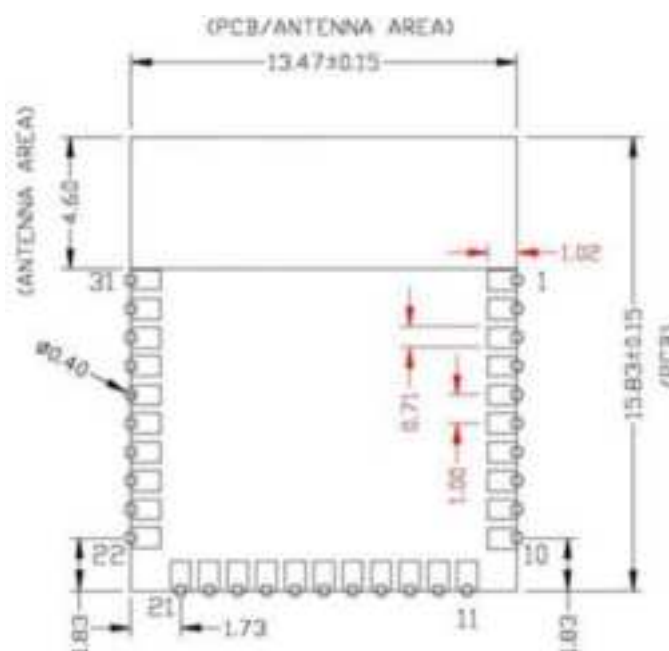

Figure 3 Solder pad dimensions (seen from bottom)
As shown in the bottom view of Figure 2, the CYW30739B2-P5TAI051 has 31 connections to a host board via solder pads (SP). Table 2 and Figure 3 detail the solder pad length, width, and pitch dimensions of the CYW30739B2-P5TAI051 module.